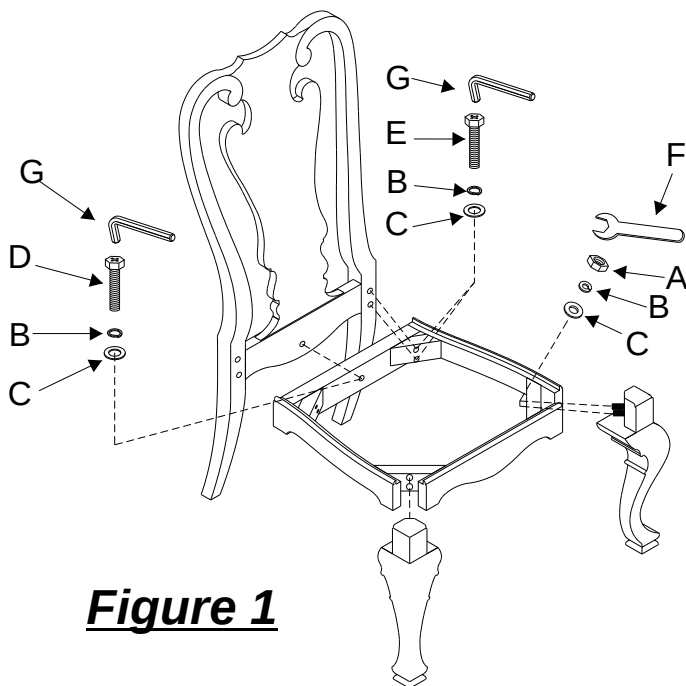

Figure 1
1. Attach the **Seat Frame** to the **Back Frame** using **Bolts (E&D)** with a **Lock Washer (B)** and then a **Flat Washer (C)** placed on the **Bolts (E&D)** first. Tighten with the **Allen Wrench (G)**. Do not over tighten! See **Figure 1**.
2. Attach the **Seat Frame** to the **Front Legs** using four **Lock Washers (B)**, **Flat Washers (C)** and a **Nuts (A)**. Tighten with the **Wrench (F)**. Do not over tighten! See **Figure 1**.